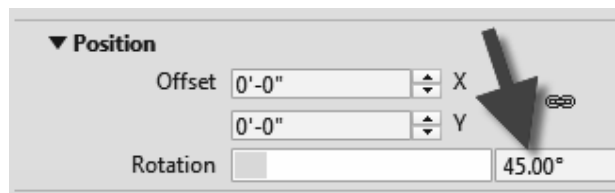

FIGURE 4-4.12 Rotate texture 45 degrees
41. Adjust the rotation of the *Appearance Asset* to **45** degrees; click **Edit...** in both the *Ceramic* and *Relief Pattern* sections (Figure 4-4.12).